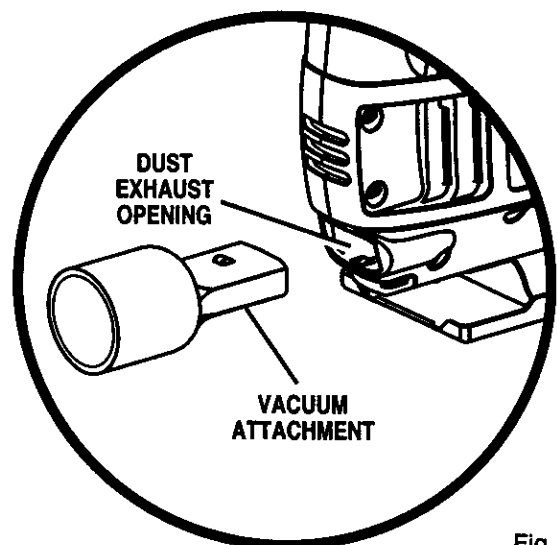

Fig. 14
See Figure 14.
- Insert vacuum attachment into dust exhaust opening. See Figure 14.